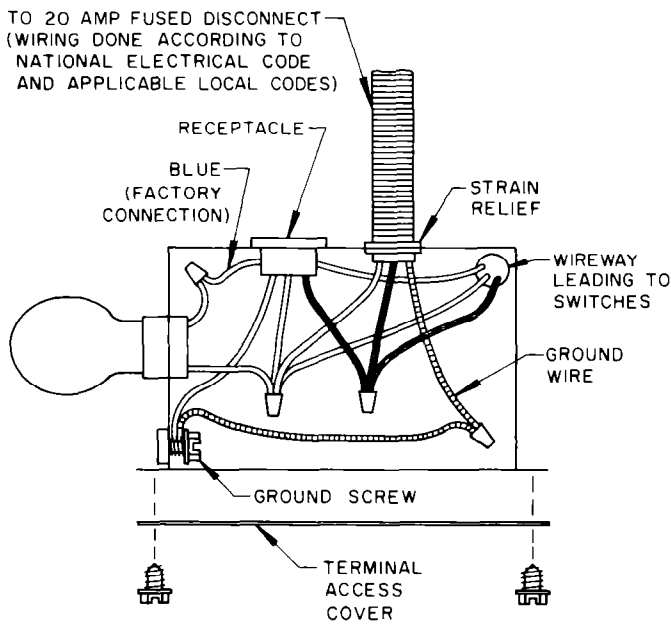

Figure 8
1. Connect the appliance to the junction box through flexible armored or nonmetallic sheathed copper cable (with ground wire). A suitable strain relief must be provided at each end of the power supply cable (at appliance and at the junction box). See Figure 8.
1. Remove the terminal access cover. See Fig. 8.
2. Install a strain relief into the opening of the wire junction box. See Figure 8.
3. Connect the white and black wires of the power supply cable to the white and black wire leads inside the terminal access box. See Figure 8.
4. Connect the green ground wire from the power supply cable to the end of the green ground wire provided in the terminal access box. See Figure 8.